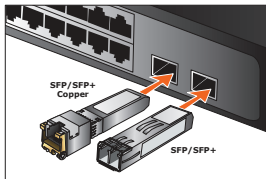

Figure 1: Insert the SFP/SFP+ Mini-GBIC Module
1. Power on the Switch and place the Switch on a flat surface. Install the new SFP/SFP+ Mini-GBIC module by inserting it into the slot and sliding it in until it stops (See **Figure 1**). Press it firmly until you hear the module snap into place. Never force, twist or bend the SFP/SFP+ Mini-GBIC module. The SFP/SFP+ Mini-GBIC module slides in smoothly and the Switch will automatically detect the new module.